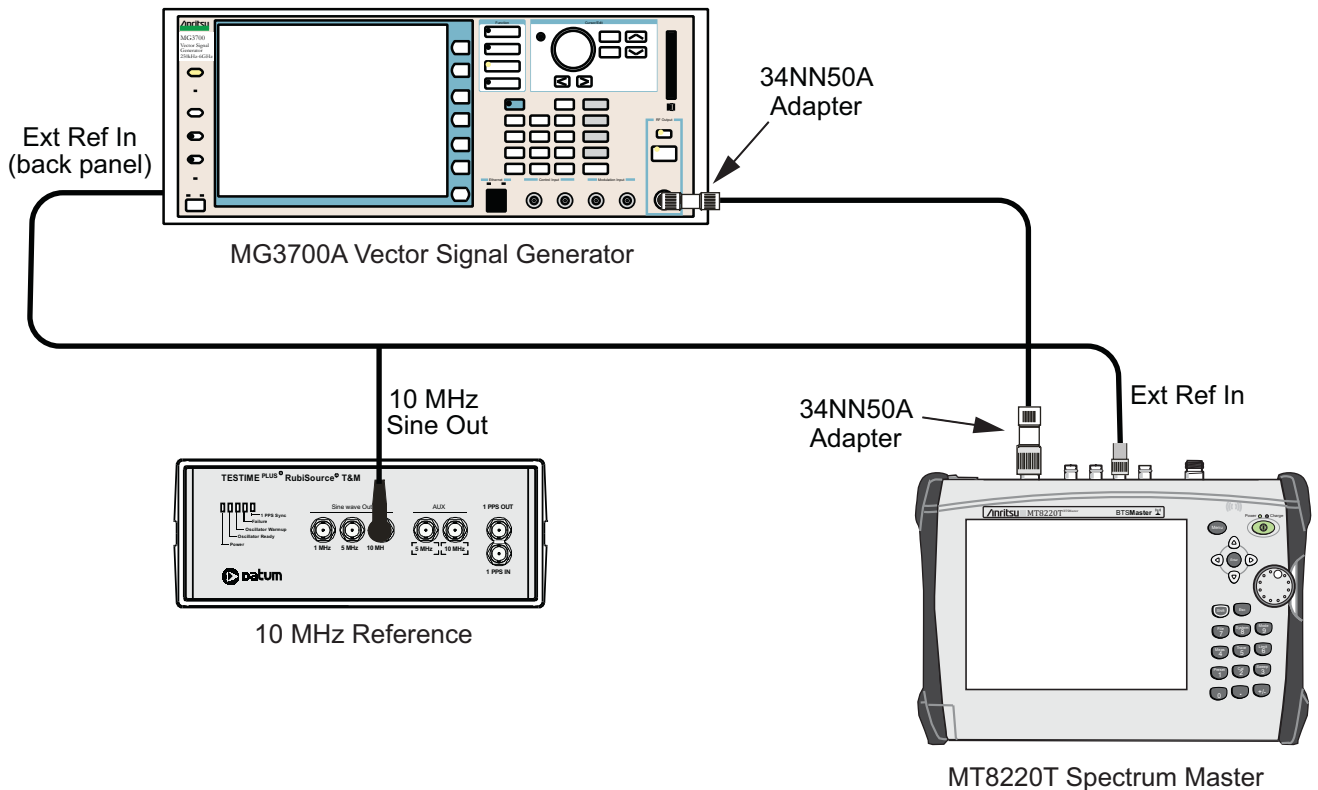

Figure 6-12. Mobile WiMAX Residual EVM Test Setup
1. Connect the 10 MHz Reference to the 10 MHz/5 MHz Ref Input of the MG3700A and the Ext Ref In of the MT8220T as shown in Figure 6-12.